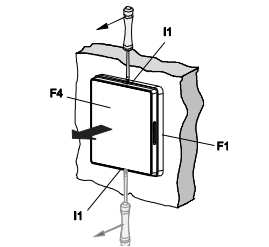

图 7 / Figure 7
- 借助螺丝刀将触摸开关的前壳 (F4) 从后壳上拆除 (参见图 7)，后壳仍然安装于安装框 (F1) 上。
- Remove the front housing (F4) of the touch sensor apart from the back housing with a screwdriver (see Figure 7), with the back housing still on the mounting frame (F1).